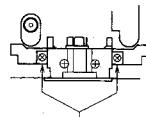
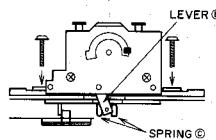

Fig. 3-3
Fig. 3-4
2) When reassembling the HEAD BLK, be sure that the LEVER (Ⓑ) is set into the SPRING (Ⓒ) as shown Fig. 3-4, then secure two screws (Ⓐ) as shown Fig. 3-3.